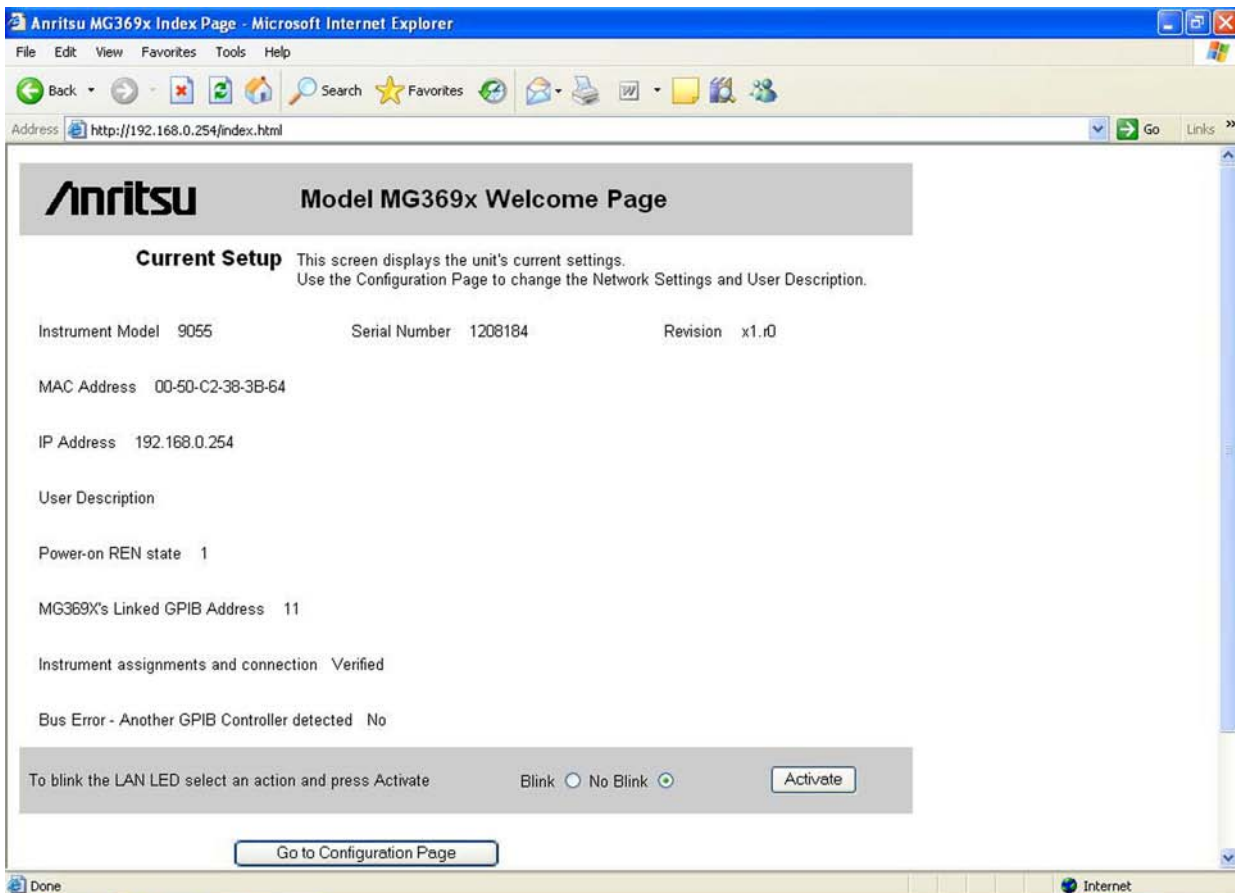

Figure 1-5. MG369xC Ethernet Device Welcome/Current Settings Page
3. Open a web browser on the PC. Enter the instrument IP address and press **Enter**. The browser will connect to the Ethernet/GPIB Controller and display the MG369x Welcome Page as shown in Figure 1-5.